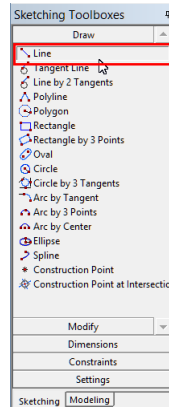

Figure 8: Selection of *Line* in the *Sketching* menu of DM.
- In the left tree, click on the *Sketching* tab and on the corresponding menu (the *Draw* toolbox is displayed by default when entering the Sketching mode) select *Line*, as in figure 8.